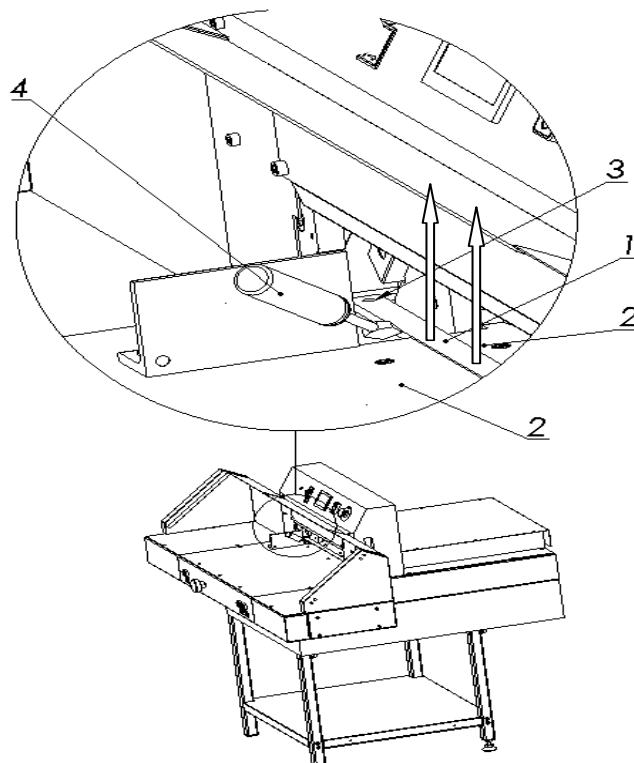

Figure 35. Removing the cutting stick.
**8.2.1** Lift (lift) the cutting stick 1 with a screwdriver 4 (fig. 35)
**8.2.3.** Insert the replaced stick into the channel between the tables 2 and place it on the dowel 3 (Fig. 35)